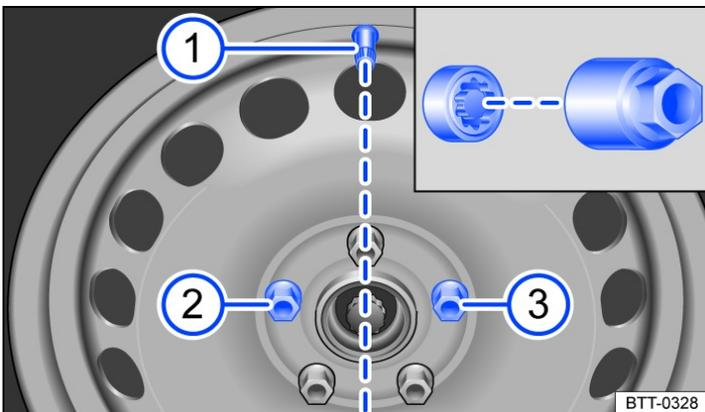

Fig. 2 Changing a wheel: tyre valve ① and locations of the anti-theft wheel bolt ② or ③.
On wheels with a wheel cover, the anti-theft wheel bolt must be screwed in at position → Fig. 2 ② or ③ according to the position of the tyre valve ①. The wheel cover can otherwise not be fitted.